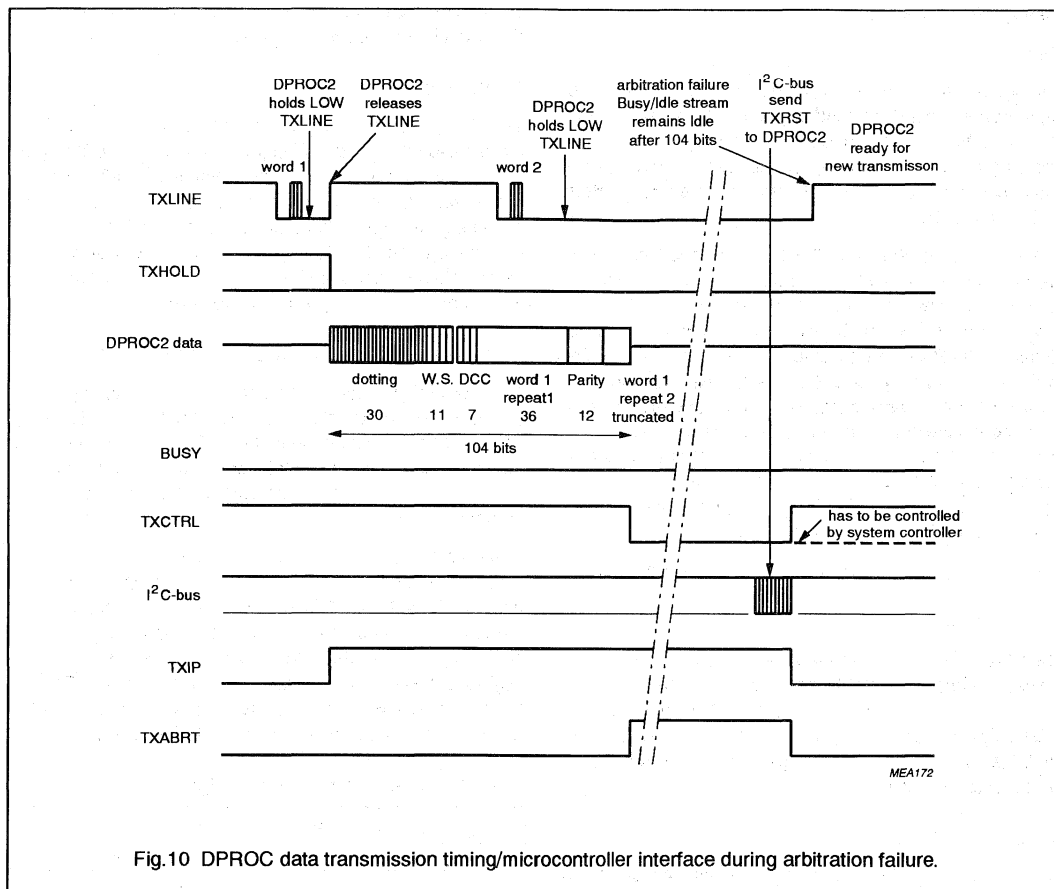

Fig.10 DPROC data transmission timing/microcontroller interface during arbitration failure.
- (1) The buffer time depends on whether the first or subsequent words are being loaded.
- (2) The system controller should monitor the TXLINE during bit 0, if the status of TXLINE does not change from a HIGH-to-LOW on the rising edge of TXCLK, then a framing error has occurred. This can be caused by glitches on the clock line or if an arbitration error occurred while the DPROC2 transmit register was being loaded. The system controller should recover the situation by holding TXLINE HIGH and supplying clocks on TXCLK until TXLINE goes LOW. Then the situation should be treated as a normal channel arbitration failure as described in Section "Reverse Control Channel Access Arbitration" - "Abort procedure (see Fig.10)".
*Abort procedure (see Fig.10)*